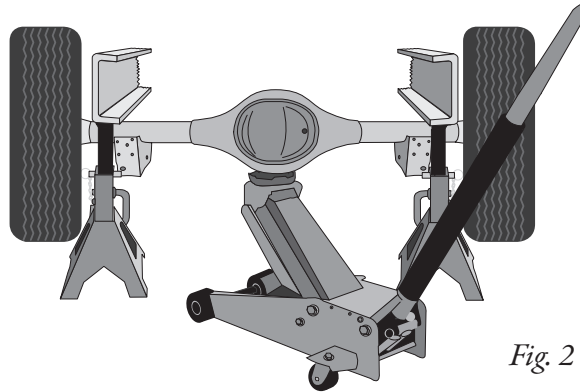

Fig. 2
1. Jack up the front of the vehicle or raise on a hoist. Support the frame with safety stands (Fig. 2). Disconnect the bottom shock bolts.